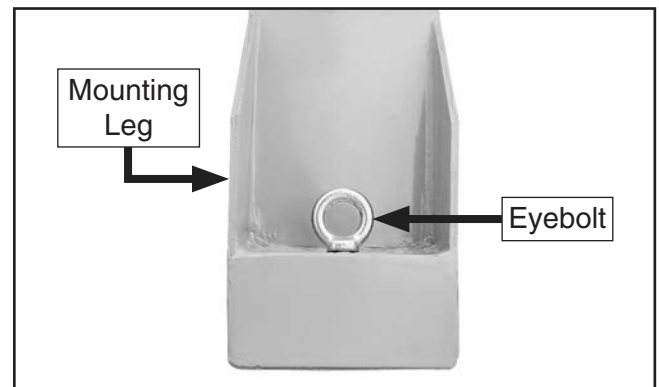

Figure 16. Eyebolt location on mounting leg.
4. Connect lifting straps to (4) eyebolts on mounting legs and secure (see **Figure 16**).